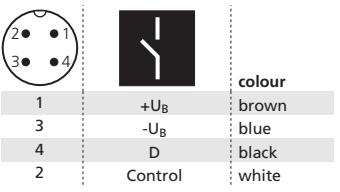

Fig. 1: Pin assignment with view onto sensor plug and colour coding of the microsonic connection cable.
- Set one ews-.../M18/CD to function transmitter and one ews-.../M18/CD as a receiver by corresponding assignment of pin 2 (see fig. 1 and 2).